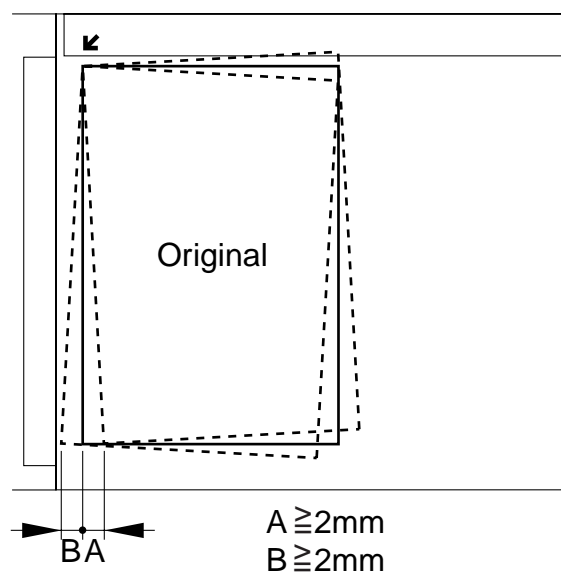

Figure 5-119-1
- 5) Open the ADF slowly, and check to make sure that A and B shown in Figure 5-119-1 are within 2 mm.